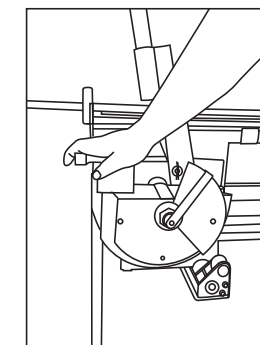

Fig 6
7. To reset the shoe for the next bend, lift ratchet handle all the way forward and apply downward force with hand on the front of the shoe hooks (Fig. 6) and shoe will release back to the "0" Degree mark.